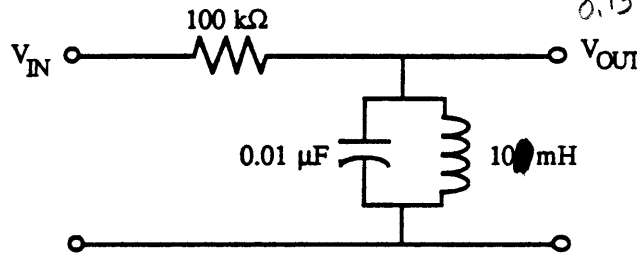

Figure 4.7 - Resonant network
Construct the circuit shown in Figure 4.7. Adjust your signal generator for a 15 kHz sine wave output and connect it to the input of your circuit. Measure the peak-peak input and output voltage with an oscilloscope for the frequencies shown below.
where $\omega_i = 2\pi/T$. The signal must repeat every T seconds where T is known as the period of the signal. This is a very important relationship as it allows us to solve problems in the frequency domain. This is especially useful for filters and resonance problems. We will not attempt to prove this relationship or really do anything with it. However, we can establish that it really works by doing a crude experiment. The resonant circuit of Figure 4.7 has a very narrow resonance which means that only a small band of frequencies can pass through it. For example, if the network was resonant at 15 kHz then it would pass only a small band of frequencies near 15 kHz. If we could vary the filter's resonant frequency then we could look at the frequency components of a signal. Unfortunately, we do not have the components to vary the resonant frequency of our network nor to build enough filters with different resonant frequencies to check the spectrum of any real signal. However, we can vary our signal frequency and then scale the results. This sounds more complicated than it really is. Measure the output voltage of your resonant network for a square wave signal at the resonant frequency. Record this voltage and frequency in Table 4.7. Now slowly decrease the generator frequency until you see another output signal from the filter. Find and record at least three more signals. HINT: all signals will be at odd multiples of your resonant frequency, i.e. 1, 3, 5, etc.
- ⑤ Calculate the resonant frequency of Figure 4.7 and compare it with your measured value. Explain any discrepancies.
- ⑥ Plot $\log_{10}(V_{OUT}/V_{IN@f_{res}})$ from Table 4.5 on the vertical axis of versus frequency on the horizontal axis. The resulting graph is a realization of the Fourier series equation, Eqn. 4.3, and is called the frequency spectrum of the generator output signal.